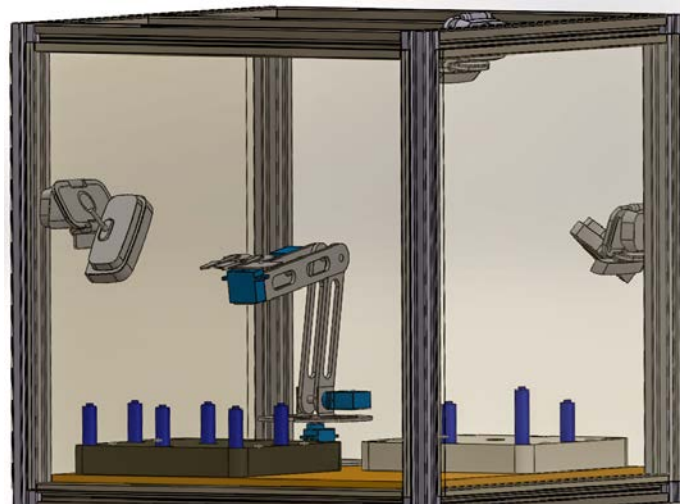

Figure 2 Play field and robot arm. Usually the play field is blocked such that participants only can see the play field and robot arm via cameras.
- 2.1 The play field includes the robot arm as shown in Figures 2 and 3, and the operation area is blocked such that the participants cannot see the play field and the robot arm directly. Participants only can see the video of the play field via cameras for robot arm operation. In the play field, there are three cameras at least for the video.
- 2.2 In the play field, participants must operate the robot arm to pick the objects (batteries) and then to place the target position. As shown in Figures 2 and 3, the batteries must be moved from black to white areas.